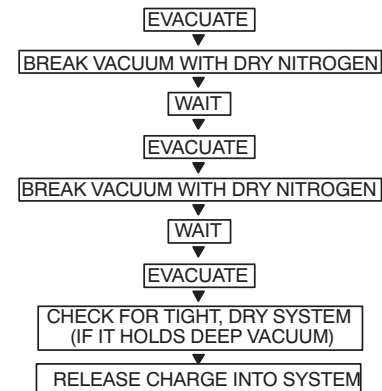

Fig. 36 — Triple Evacuation Method
The triple evacuation method should be used when vacuum pump is not capable of pumping down to 500 microns and system does not contain any liquid water. Refer to Fig. 36 and proceed as follows:
5. Repeat this procedure as indicated in Fig. 36. System will then be free of any contaminants and water vapor.